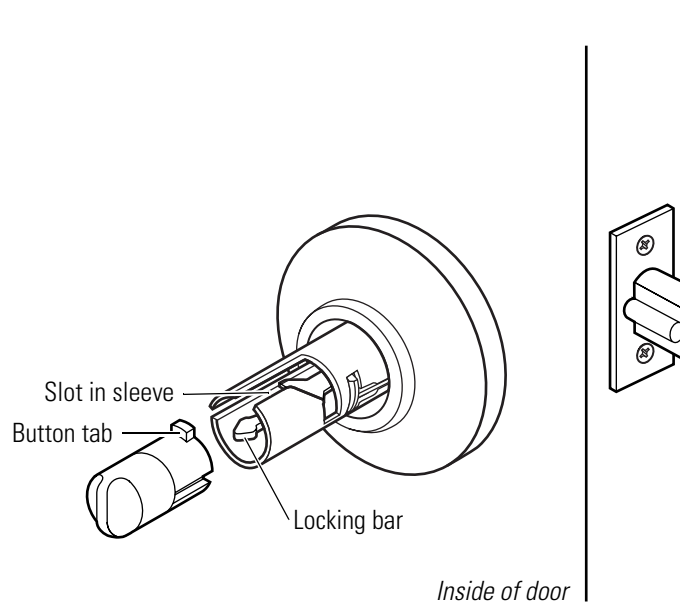

Figure 3.10 Inserting the button assembly into the sleeve
1. Align the button tab with the top slot in the sleeve, as shown in Figure 3.10.